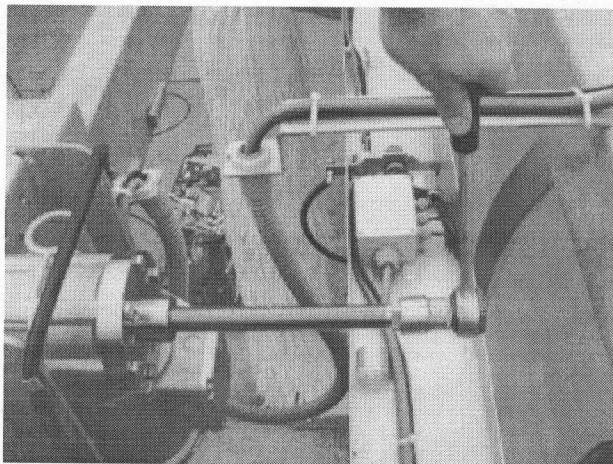

Fig. 024
8. Screw on extractor at the gear and eject driving shaft from the gear (Fig. 024)